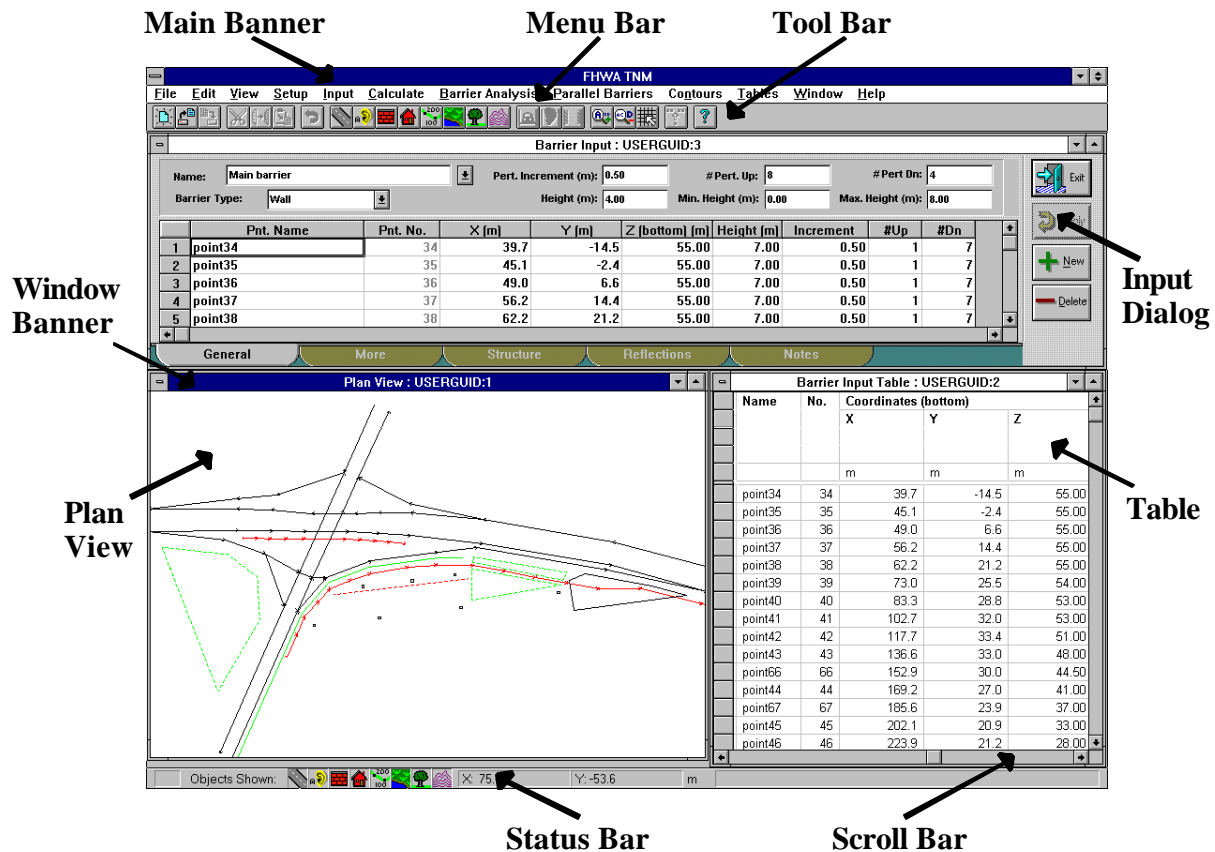

Figure 2. The TNM screen.
Figure 2 shows TNM's main screen, including a plan view of an existing TNM run, an output table and an input dialog box. Sections 3.1.1 through 3.1.10 discuss the major screen items shown in Figure 2.
3.1.2 Window Banners. A window banner shows the name of the opened window and its associated run name. Note: When you have more than one window open/displayed, the window whose banner is highlighted, is the "active" window. All editing/inputting is done in the active window. Any non-active windows, dynamically linked to the active window, will be able to effect those edits. To activate a window, use the mouse to click anywhere on that window. That window's banner will then be highlighted. Once a window is "active," you may move the position of that window by holding down the left mouse button on the window banner, and dragging the entire window to a new desired position. In Figure 2, the Plan View is the active window.